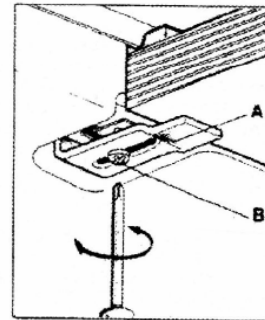

Fig.3
- 3) With a screwdriver assemble the 4 plates A with the special screw B (fig.3).